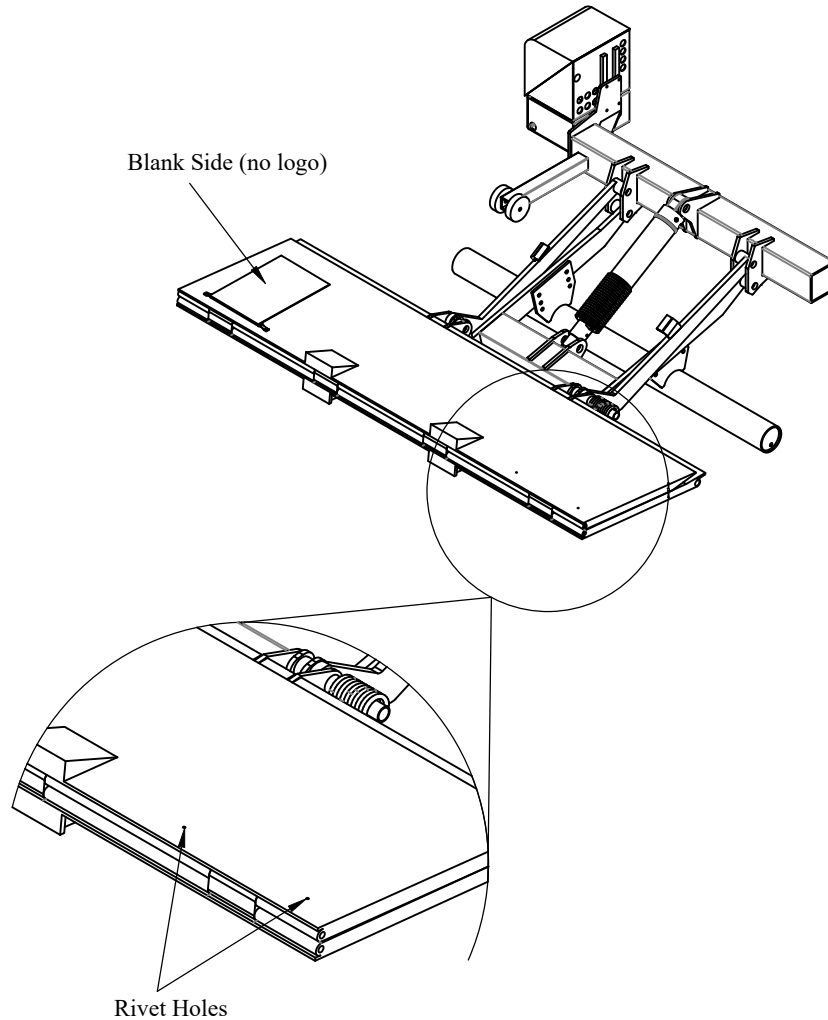

Figure 33: Platform Reflective Flags.
2. **Identify** the four (4) holes on the platform (Figure 33).
Note: Before riveting the flags, make sure they have the Tommy Gate logo facing the platform and the blank side facing up (Figure 33).